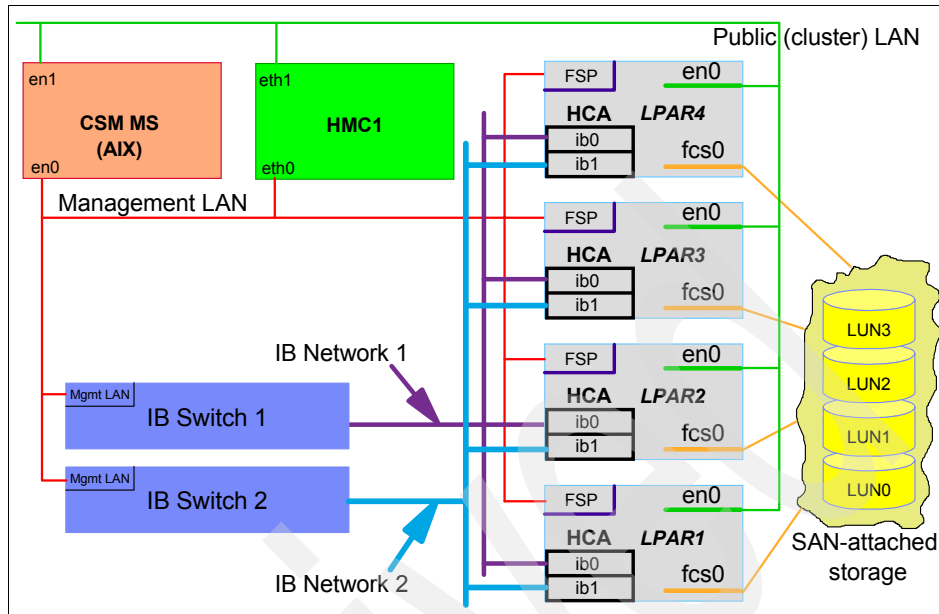

Figure 4-5 ITSO test configuration
Figure 4-5 on page 97 presents a diagram of our test environment. The LPARs are in fact System p5 52A in full system partition.
- ▶ Set up a network configuration (TCP/IP) suitable for our lab environment. This included a host name and TCP/IP addresses. We have set up two networks: one public (cluster) network and one management (private) network (see Figure 4-5 on page 97).